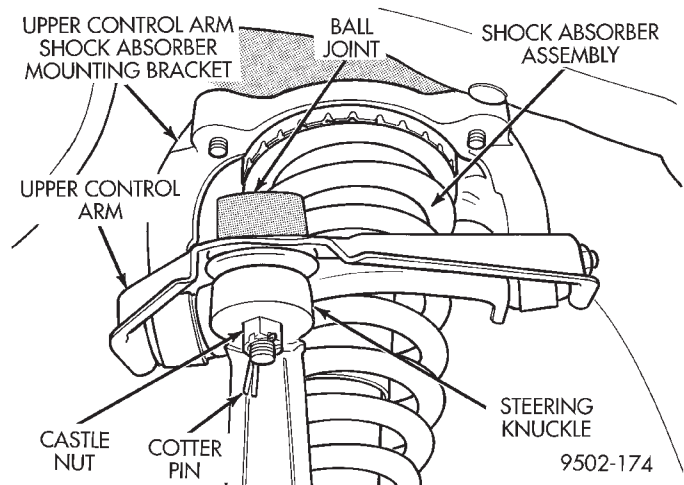

Fig. 42 Upper Ball Joint Attachment To Steering Knuckle
(17) Remove the cotter pin and nut (Fig. 42) from the upper ball joint stud to steering knuckle attachment.